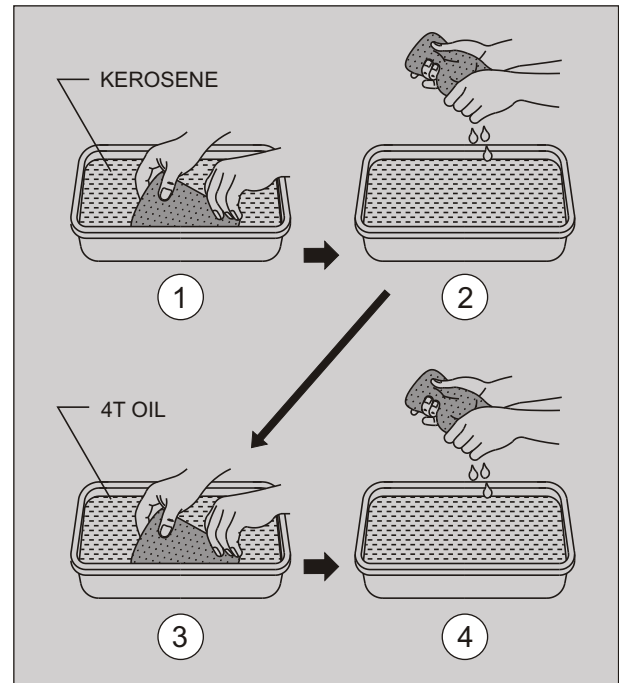

Fig. 2.25
- Fill a pan of suitable size with cleaning solvent (Kerosene). Immerse the filter complete air cleaner in solvent and wash it thoroughly. (Fig. 2.25)